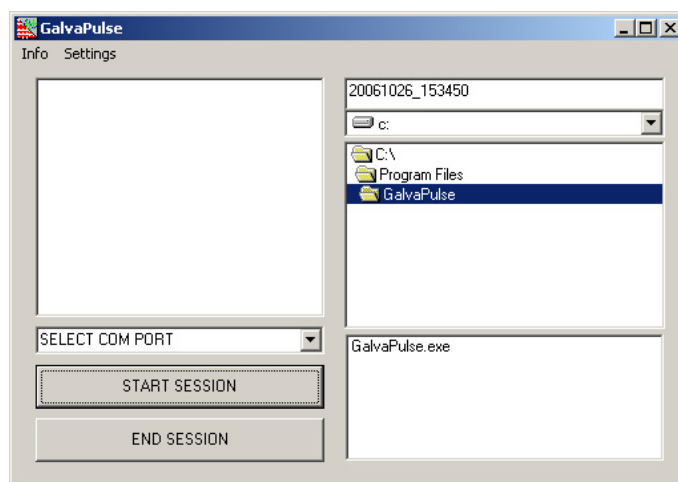

Fig. 37. The GalvaPulse PC program window.
- d. To start the GalvaPulse PC program use the “Windows Explorer” and locate the file “GalvaPulse.exe” (Typically found in C:\Program Files\GalvaPulse). Double click on the “GalvaPulse.exe” file. The program window shown in Fig. 37 should now appear
- d. The location to where the data should be stored is selected from the drop-down menu (selection of drive) and the list below the menu (path to folder). See Fig. 37.